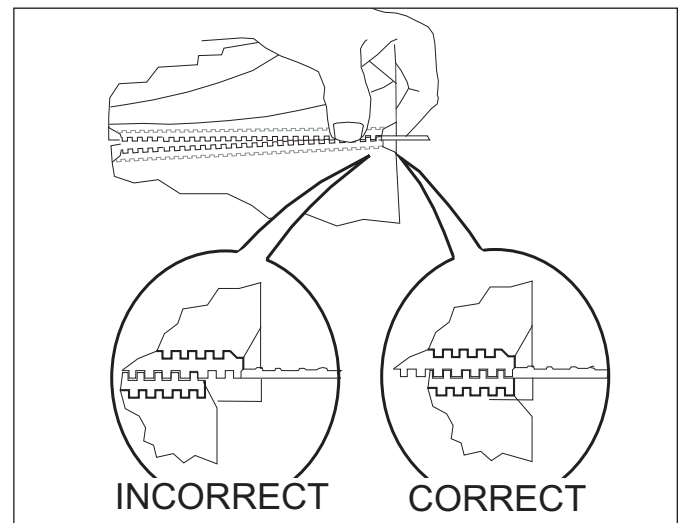

Figure 10. Aligning Belt Teeth
7. Install the Silicone Belt Pins in the new Silicone Belts, ensuring the ends are properly aligned (Figure 10).
Align the ends of the Silicone Belt properly (Figure 10) or the Silicone Belt may be damaged.